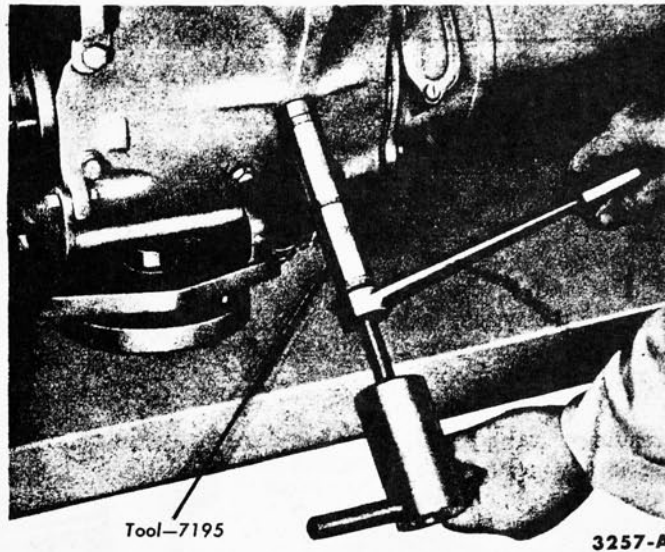

FIG. 34—Rear Servo—Bench Adjustment
3. Use the special tool shown in Fig. 34 to tighten the adjusting screw until the ratchet overruns, then back off the adjusting screw 1½ turns.